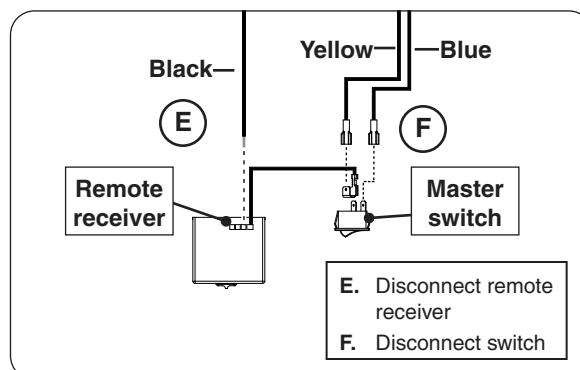

Fig. 46-3 Disconnect receiver & switch wires
3. Locate the remote receiver on the control panel, remove the 2 hex screws using a $\frac{1}{4}$ " nut driver, then pull the receiver (and bracket) out of the control panel. Disconnect the receiver and switch wires as shown in Fig. 46-3, E-F. The valve box can now be pulled away from the unit.